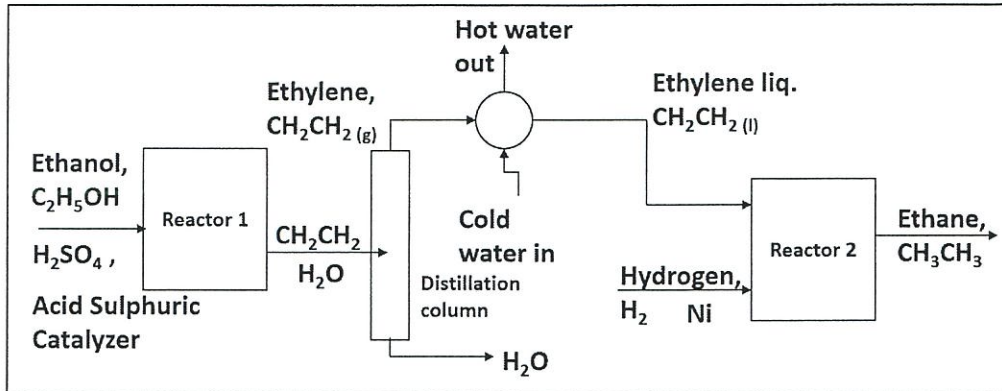

Figure Q1 (c)
- (b) The block flow diagram (BFD) gives a clear overview of a production. Explain **FOUR (4)** general format and conventions used in preparing block flow process diagrams. (6 marks)
- (c) Based on **Figure Q1 (c)**, explain the process in your own words. (6 marks)
- (d) A mixture containing 40% benzene (B) and 60% toluene (T) by mass in fed to a distillation column. An overhead steam of 90 wt% benzene is produced, and 10 wt% benzene fed to the column leaves in the bottom stream. The feed rate is 2400 kg/h. Determine the overhead flow rate and the mass flow rates of benzene and toluene in the bottom stream. (9 marks)
- Q2** (a) Cavitation is a common problem for centrifugal pumps. Explain how to formulate a plan to prevent that cavitation. Gives **FOUR (4)** suggestions. (6 marks)